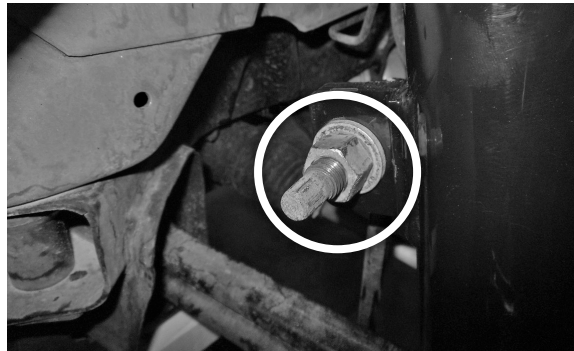

Fig. 18
5. Re-attach the sway bar using the OEM sway bar nut (Fig. 18). Torque to 128Nm (95 lb.-ft.).